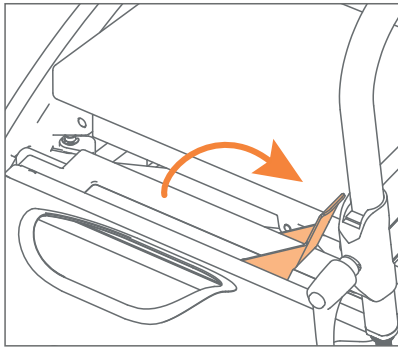

Figure 49: Unlocking the transport chair package.
- a.** Pull up the red handle without force. This way the locking bolts are tied in, and the transport chair package unlocked (**Figure 49**).